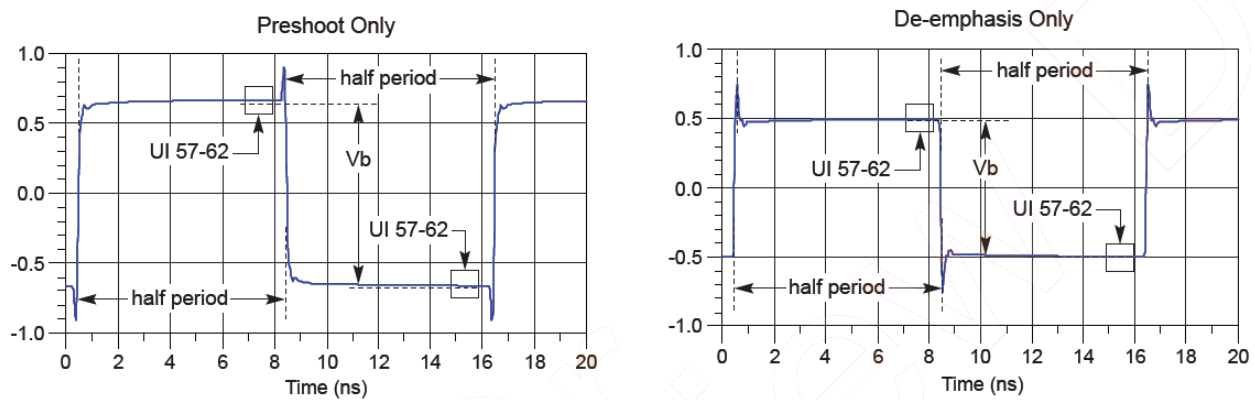

Figure 63 Waveform measurement points for preshoot and de-emphasis
8.0 GT/s, 16.0 GT/s and 32.0 GT/s PCIe signaling must support the full range of presets given in Table 8-1 (PCIe Base Specification Revision 5.0). Presets are defined in terms of ratios, relating the pre-cursor and post-cursor equalization voltages. The pre-cursor ( $V_c$ ) is referred to as pre-shoot, while the post-cursor ( $V_b$ ) is referred to as de-emphasis. This convention permits the specification to retain the existing 2.5 GT/s and 5.0 GT/s definitions for Tx equalization, where only de-emphasis is defined, and it allows preshoot and de-emphasis to be defined such that each is independent of the other. The tolerances in Table 8-1 (PCIe Base Specification Revision 5) also apply to 2.5 and 5.0 GT/s de-emphasis. The maximum swing,  $V_d$ , is also shown to illustrate that, when both  $c_{+1}$  and  $c_{-1}$  are nonzero, the swing of  $V_a$  does not reach the maximum as defined by  $V_d$ . The high frequency nature of PCIe signaling makes measurement of single UI pulse heights impractical. Consequently all amplitude measurements are made with low frequency waveforms as shown in Figure 63